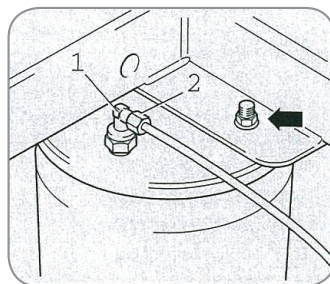

Figure 2
2. Disconnect nylon air line at union (*Figure 2*).
3. Remove two retaining nuts at the top plate (*Figure 2*).